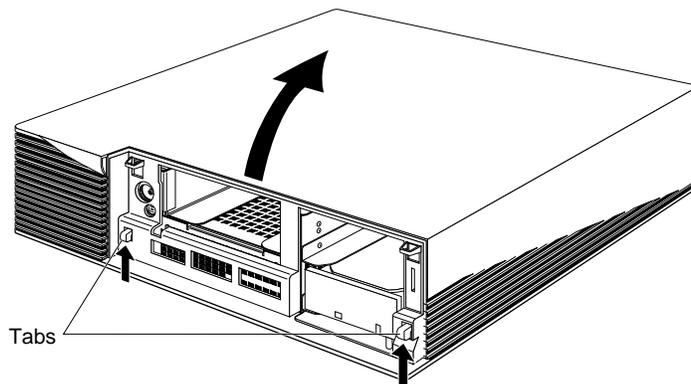

Figure 2-3 Removing the Top Cover From the CHALLENGE M Chassis
- Rotate the cover back and away from the chassis, as shown in Figure 2-3.